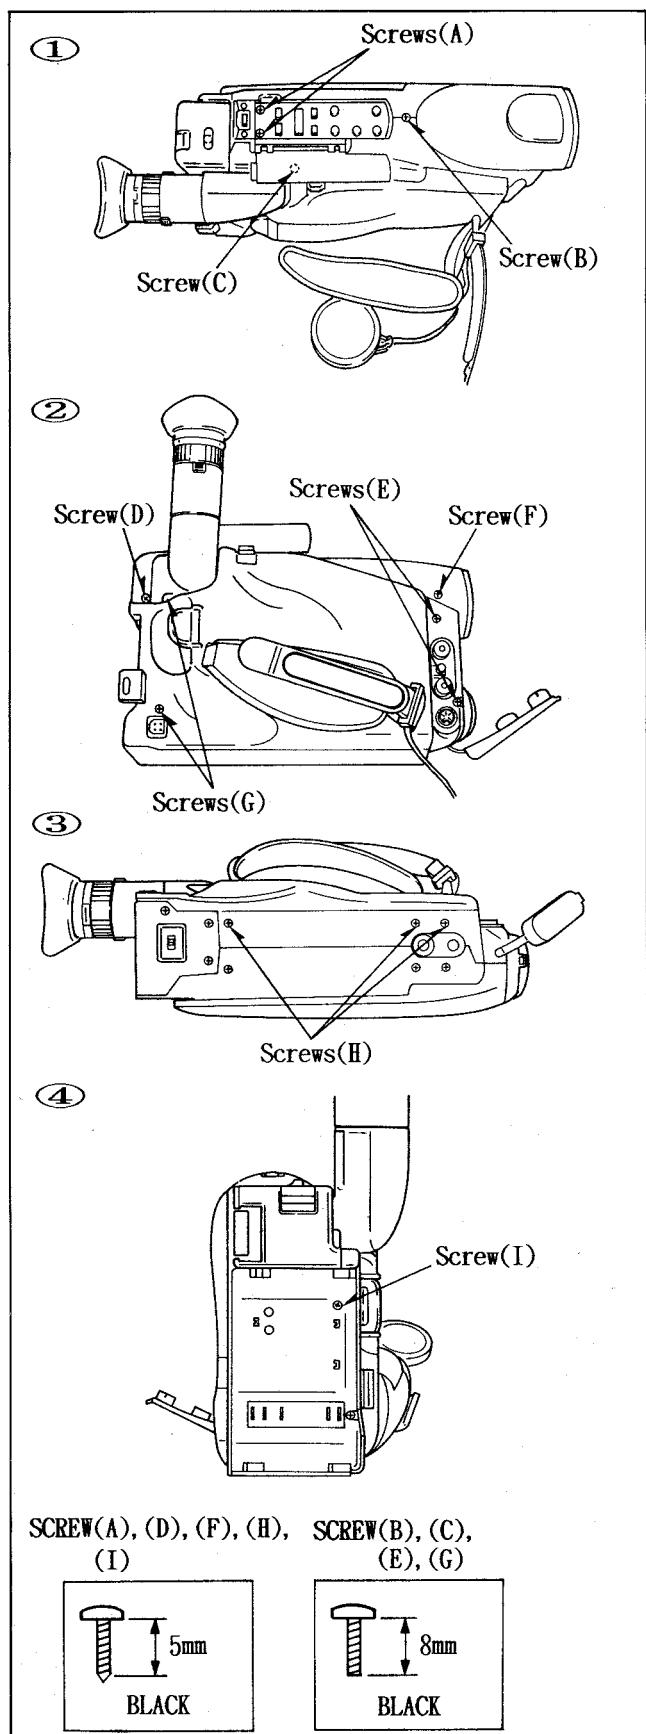
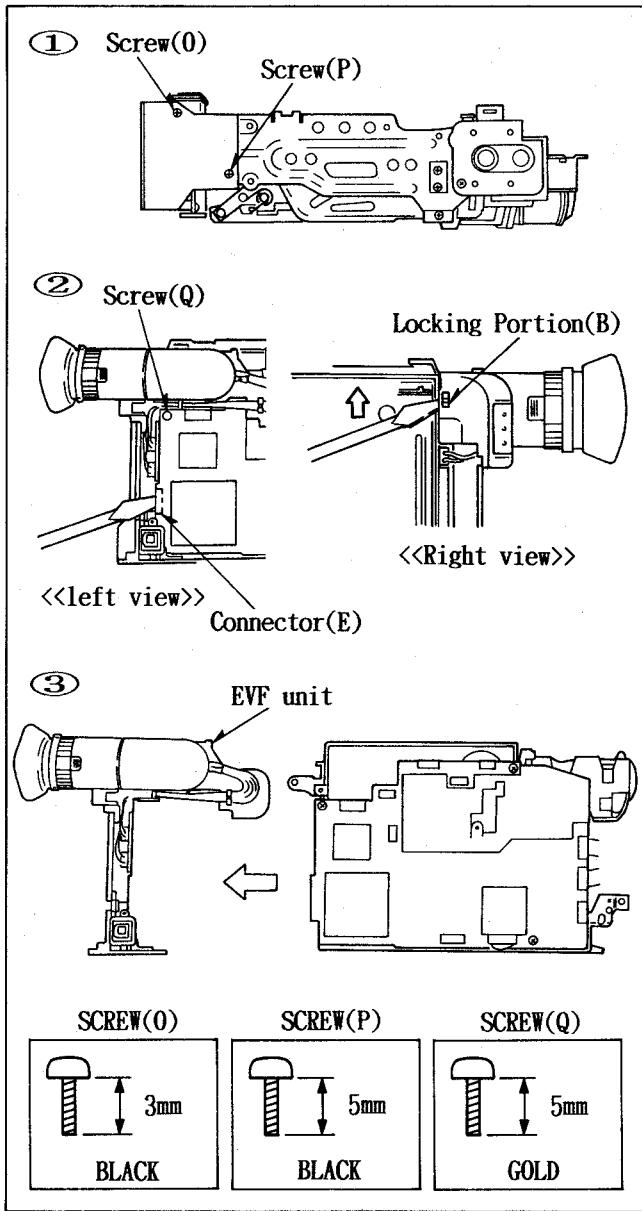

Fig. D2
Fig. D6
(See Fig. D2 ①.)
(1). Remove ..... Screw(B) and Screw(C).
(See Fig. D2 ②.)
(2). Remove ..... 2 Screws(E) and 2 Screws(G).
(See Fig. D2 ③.)
(See Fig. D2 ④.)
(See Fig. D6 ①)
- (1). Remove.....Screw(O) and Screw(P).
(See Fig. D2 ②)
- (2). Remove.....Screw(Q).
(See Fig. D6 ②)
- (3). Disconnect.....Connector(E).
- (4). Locking Portion...Locking portion(B).